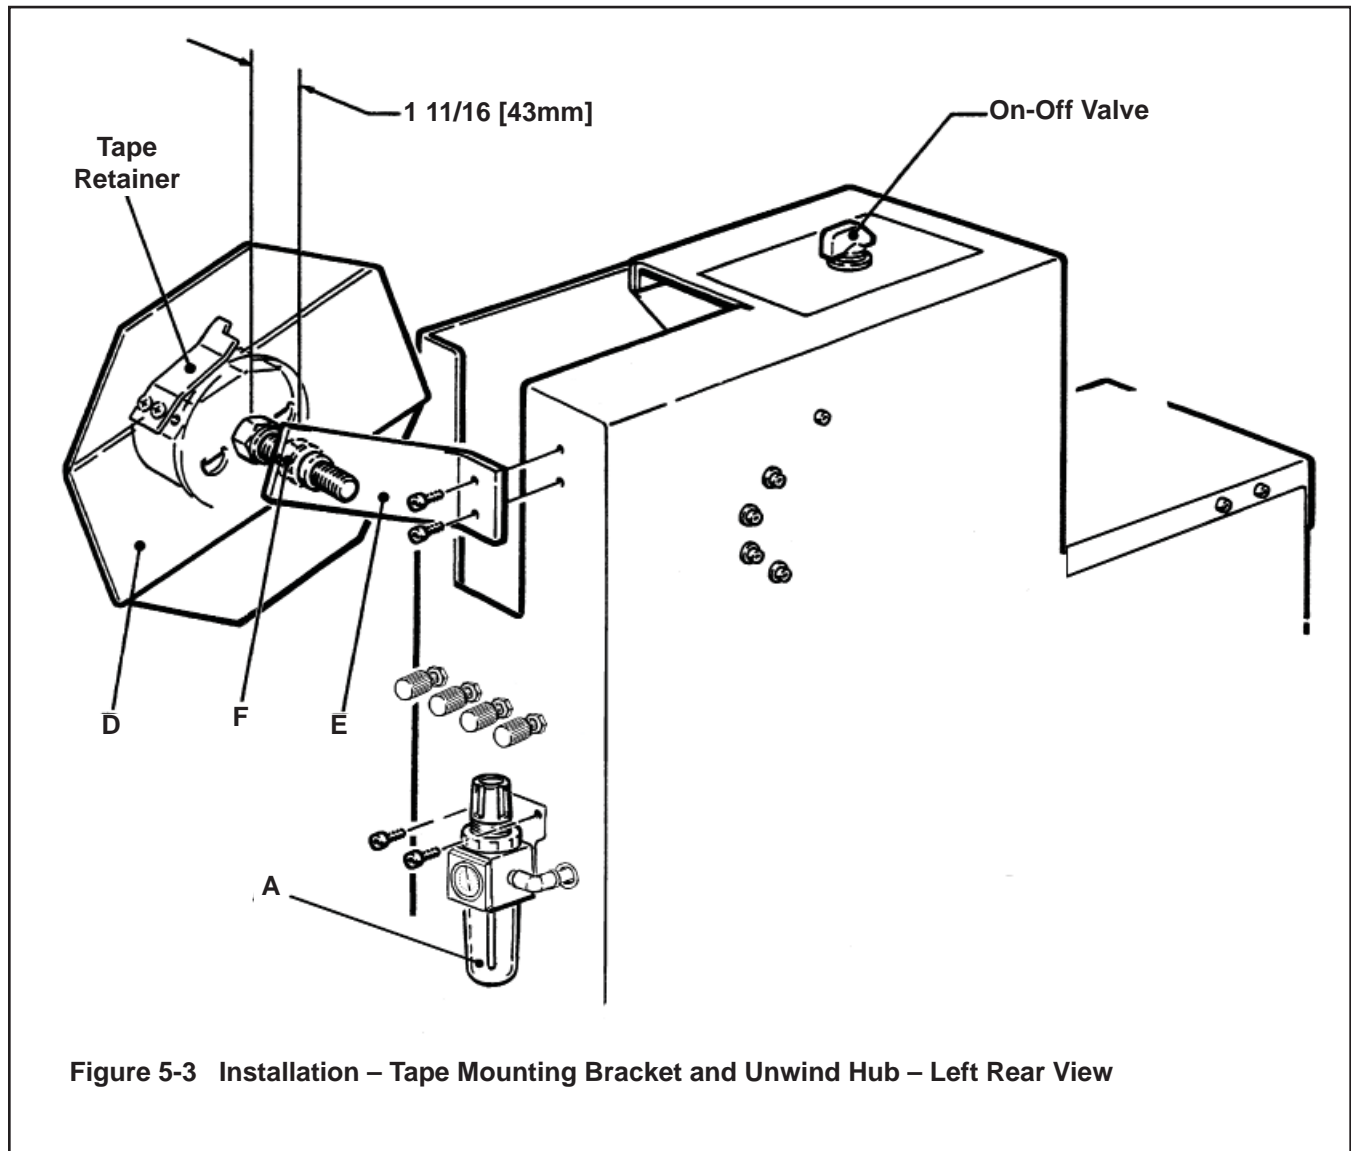

Figure 5-3 Installation – Tape Mounting Bracket and Unwind Hub – Left Rear View
1. Refer to **Figure 5-3** and locate the air control unit (A) in a vertical position for proper operation. Assemble and secure the two 8-32 x 1/2 lg. screws and flat washers.
Turn On/Off valve on **S-867** to "Off" (O) position. See **Figure 5-3**.
1. Attach the tape drum bracket (E) to the rear of the machine with two #10-24 x 1/2 lg soc hd capscrews as shown in **Figure 5-3**.
2. Assemble the tape drum/backup plate (D) to the bracket (E) and adjust tape drum/backup plate in or out to obtain the 1-11/16 inch [43 mm] clearance between backup plate and bracket as shown in **Figure 5-3**. Secure this setting with the 1/2-13 jam nut (F).